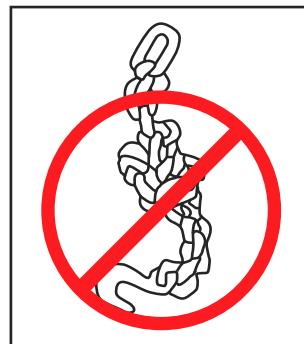

Figure 10
- Slings shall not be shortened with knots, bolts, or makeshift devices. (Figure 10)